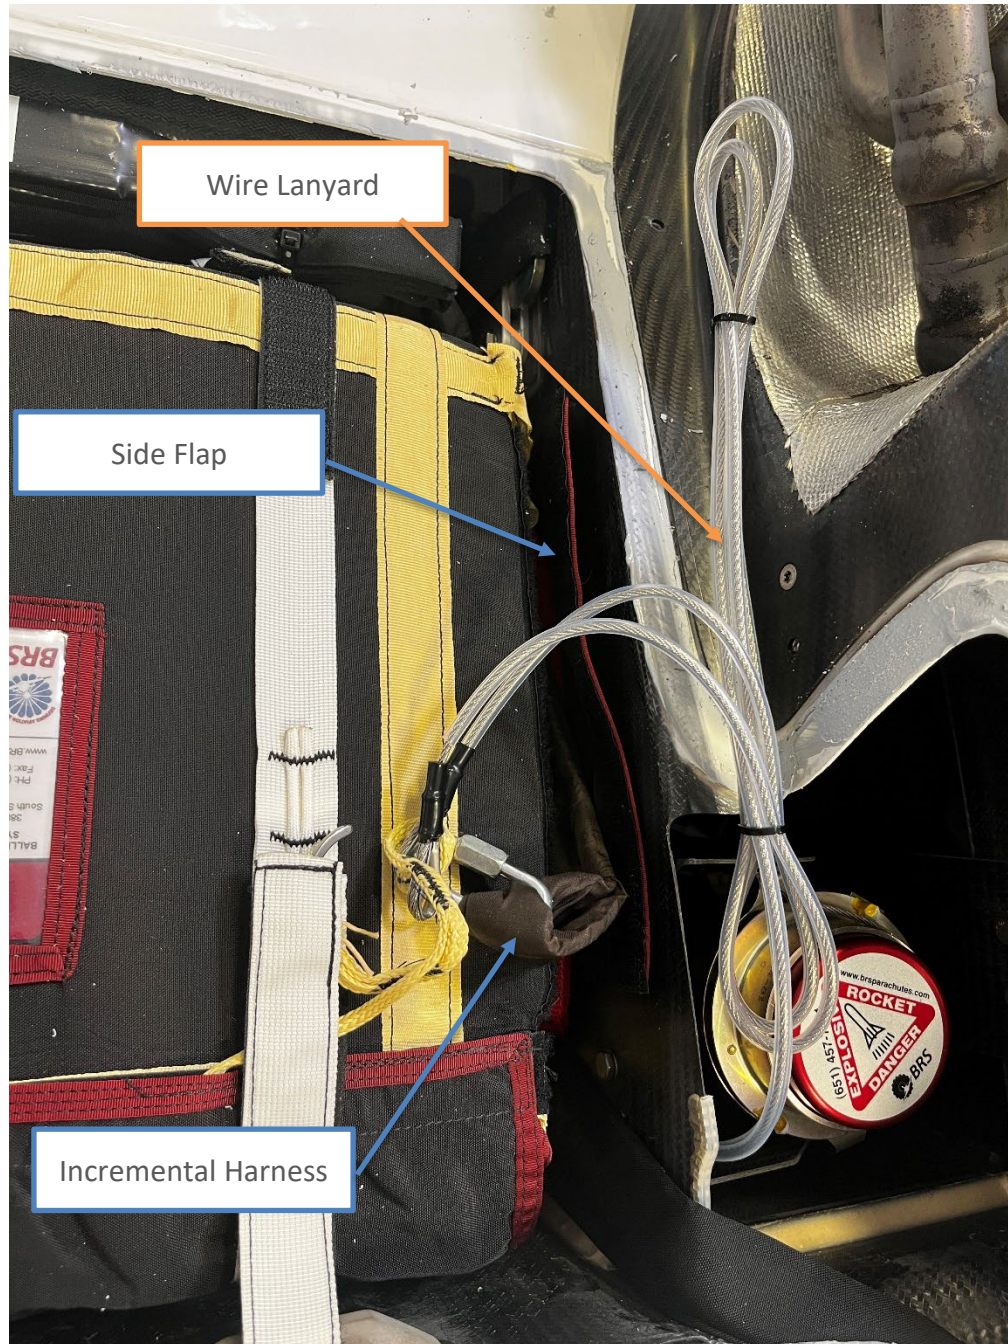

Figure 3 Wire Lanyard and Side Pocket.
3. Remove the Wire Lanyard from Side Flap on Parachute Container by peeling the Velcro open on the Side Flap. **(Figure 3)**